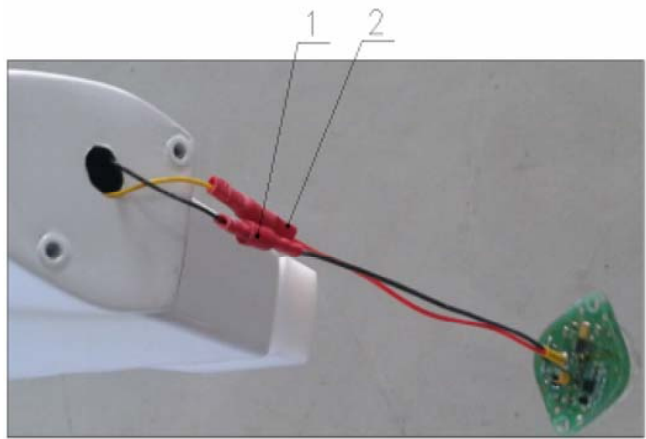

Fig. 33-40-9
2	Disconnect socket item 1 and plug item 2 (Fig. 33-40-9).
1	Connect socket item 1 and plug item 2 as shown on Fig. 33-40-9.